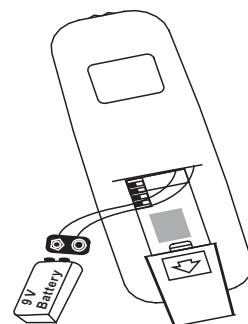

Figure 20
- Remove the battery cover from the remote control (G). Install a 9V battery (K) (included). Replace the battery cover. (Figure 20)